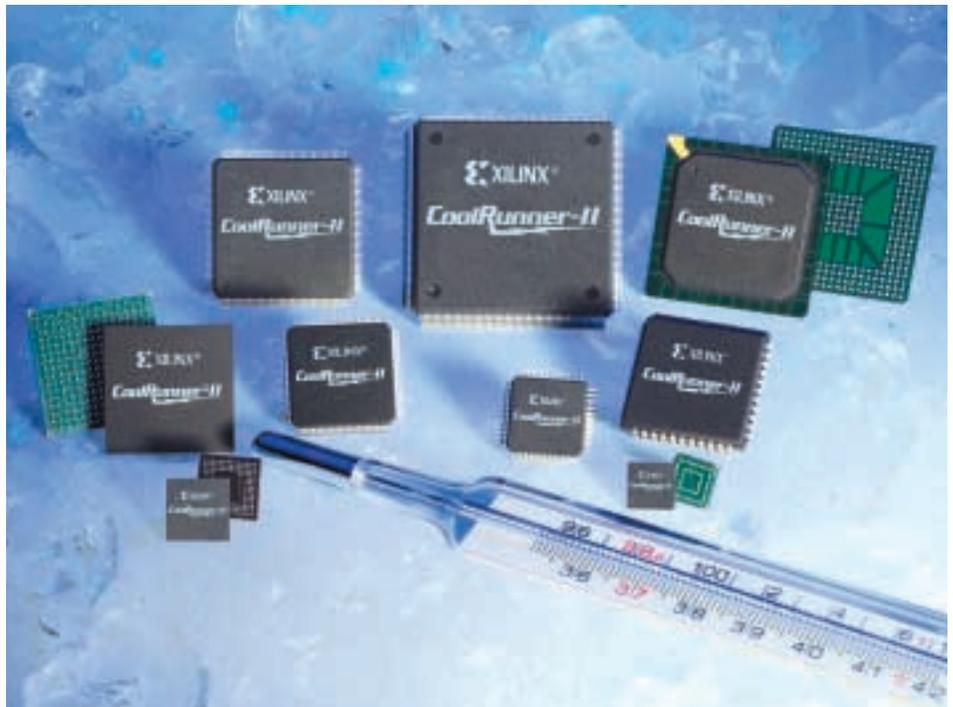

Figure 1 - CoolRunner-II CPLD package offerings
Don't forget that cost can mean board space to some engineers and inexpensive parts to others. As shown in Figure 1, with CoolRunner-II you can select small BGA packages such as 56- or 132-ball chip scale packages (CSP) for high integration or flat pack (FP) packages for low-cost solutions. If you are concerned with board size, you may need unique CSP options. Xilinx also offers 0.5 mm to 0.8 mm ball spacing packages that can save you more than 50% when compared to similar I/O count FP package options.